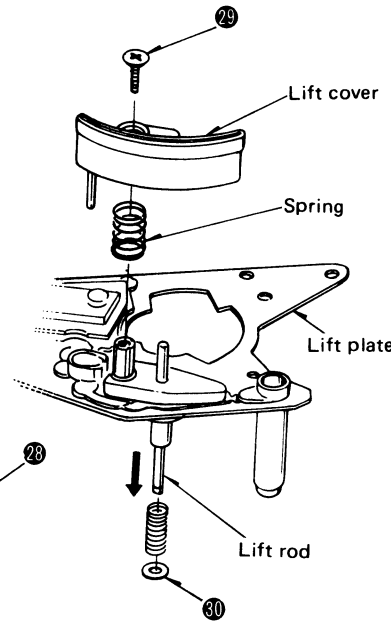

Fig. 12
3. Remove the setscrew [ Fig. 12: ②⑨ ] of the arm lift cover.
4. Remove the washer [ Fig. 12: ③① ] from the arm lift rod.